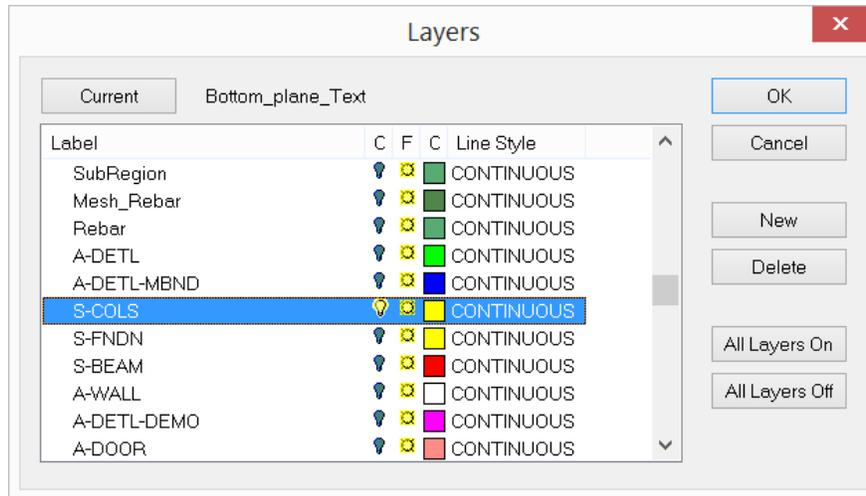

Figure 6.4-4 - Layers Dialog Box
- Select the menu item **Home | Display | Layer Settings**, to open *Layers* dialog box. Click on the button “**All Layers Off**”. And this time turn **All Layers Off** and turn on that layer representing the structural slab layer (**Figure 6.4-4**) to display only the polygon representing the slab region(s).